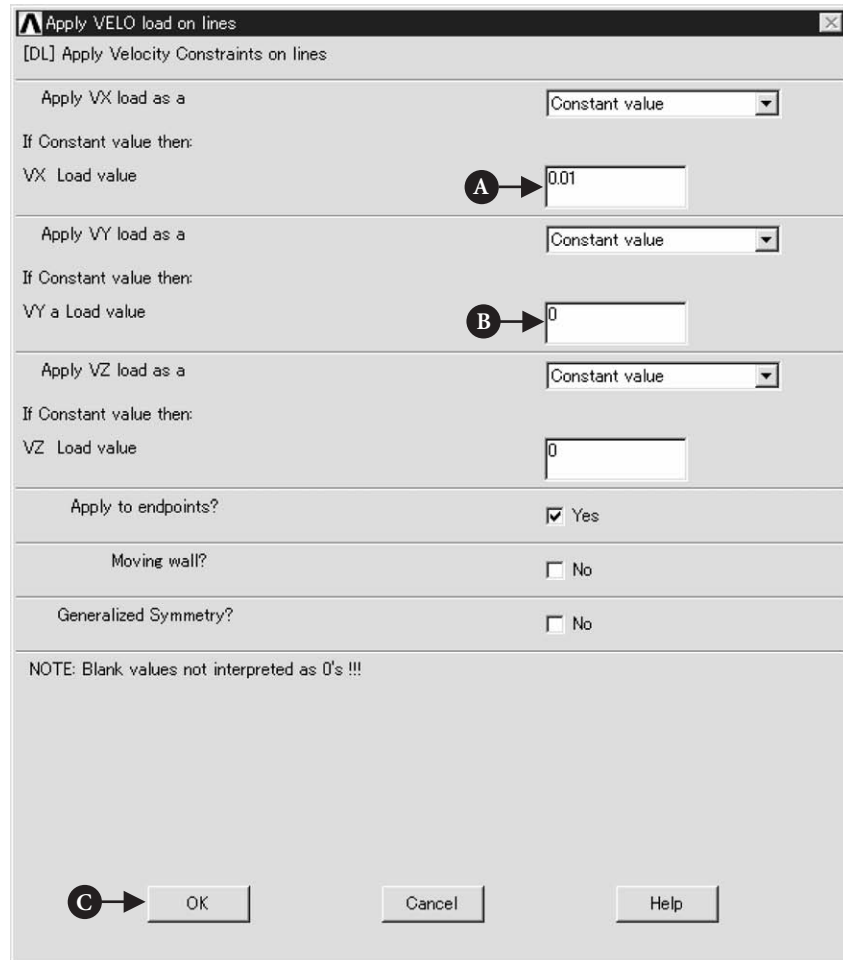

Figure 5.51 Window of Apply VELO load on lines.
- (1) Pick **Line 1** and **Line 6** at the entrance of the channel on **ANSYS Graphics** window and click **OK** button. Then the window **Apply VELO load on lines** opens (Figure 5.51).
- (2) Input [A] **0.01** to **VX** box and [B] **0** to **VY** box. Then, click [C] **OK** button.
- (3) Pick Line Number of 2, 5, 7, 8, 9, 10, 11, 12 and click OK button. Input 0 to VX and VY boxes in Figure 5.51 and click OK button.